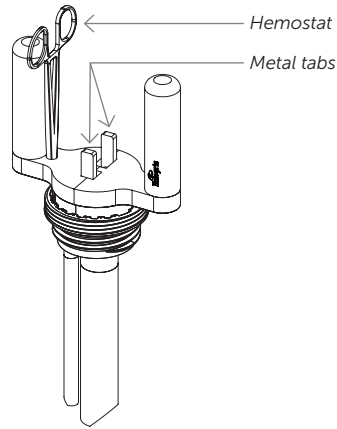

Figure 2.
3. Push each metal tab individually toward center of o-ring removal tool until it stops (see Figure 2). Release each tab.
5. Remove the cut dispense and vent o-rings (two smallest o-rings) using the hemostat provided (see Figure 2).